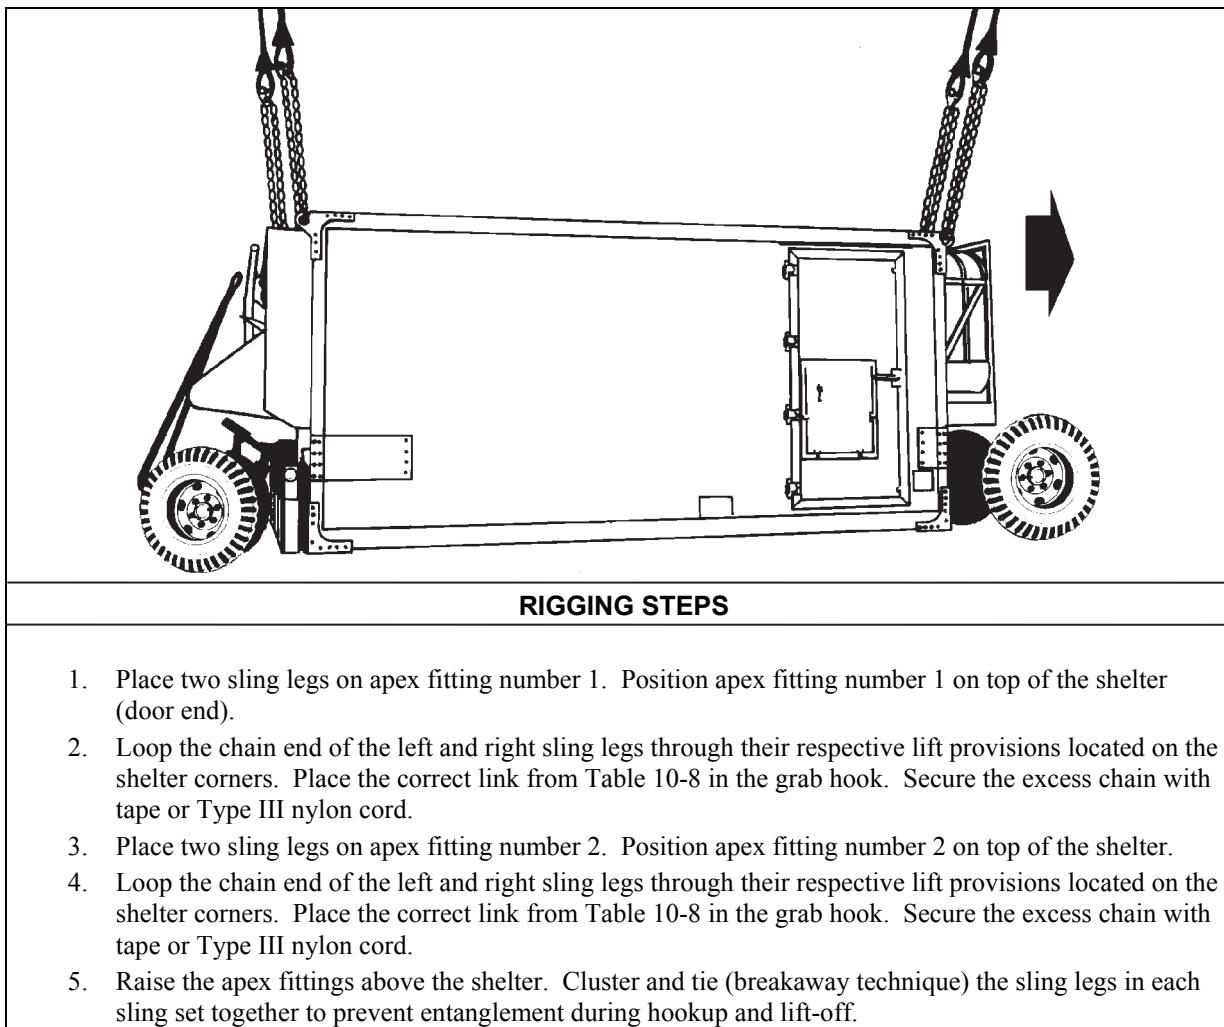

Figure 10-8. Jam-Resistant Secure Communications Satellite Communications Terminal
- **Rigging.** Rig the load according to the steps in Figure 10-8.